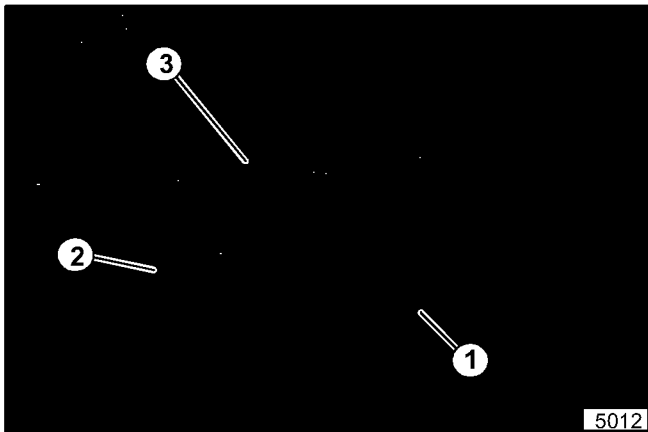

Figure 19. Transmission And Mounting Plates
3. Loosen the hardware securing the mounting plate (supporting the reel drive pulley) and the pillow block (see figure 19).